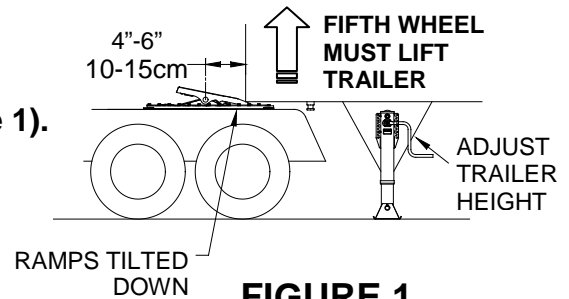

FIGURE 1
1. The ramps must be tilted down (see figure 1).
IMPORTANT! When coupling, the fifth wheel must lift the trailer (see figure 1).